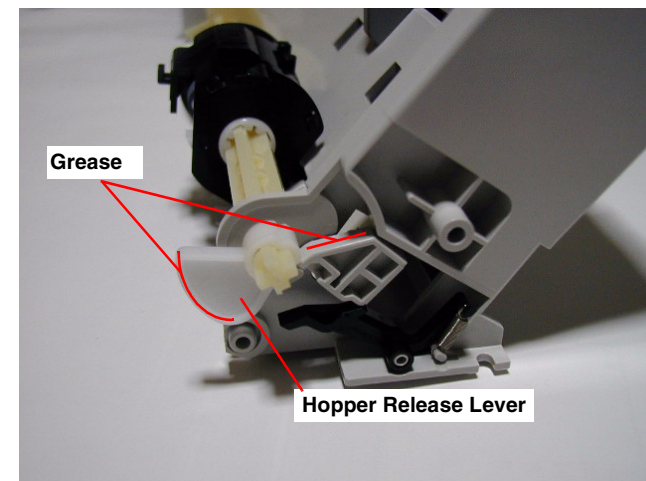

Figure 4-39. Assembling the LD Hopper Release Lever
- Be careful of the direction of the Hopper Release Lever when installing it. Refer to Figure 4-39.